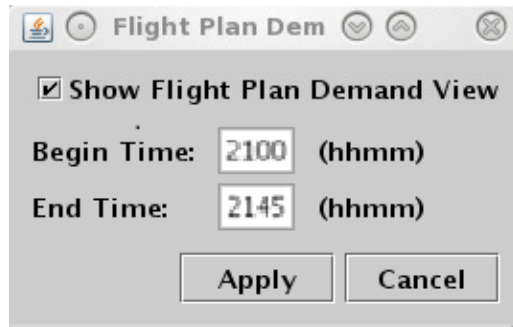

Figure 23. Flight Plan Demand settings.
**Step 2:** Select “Show Flight Plan Demand View” to enable flight plan demand function (Figure 23).